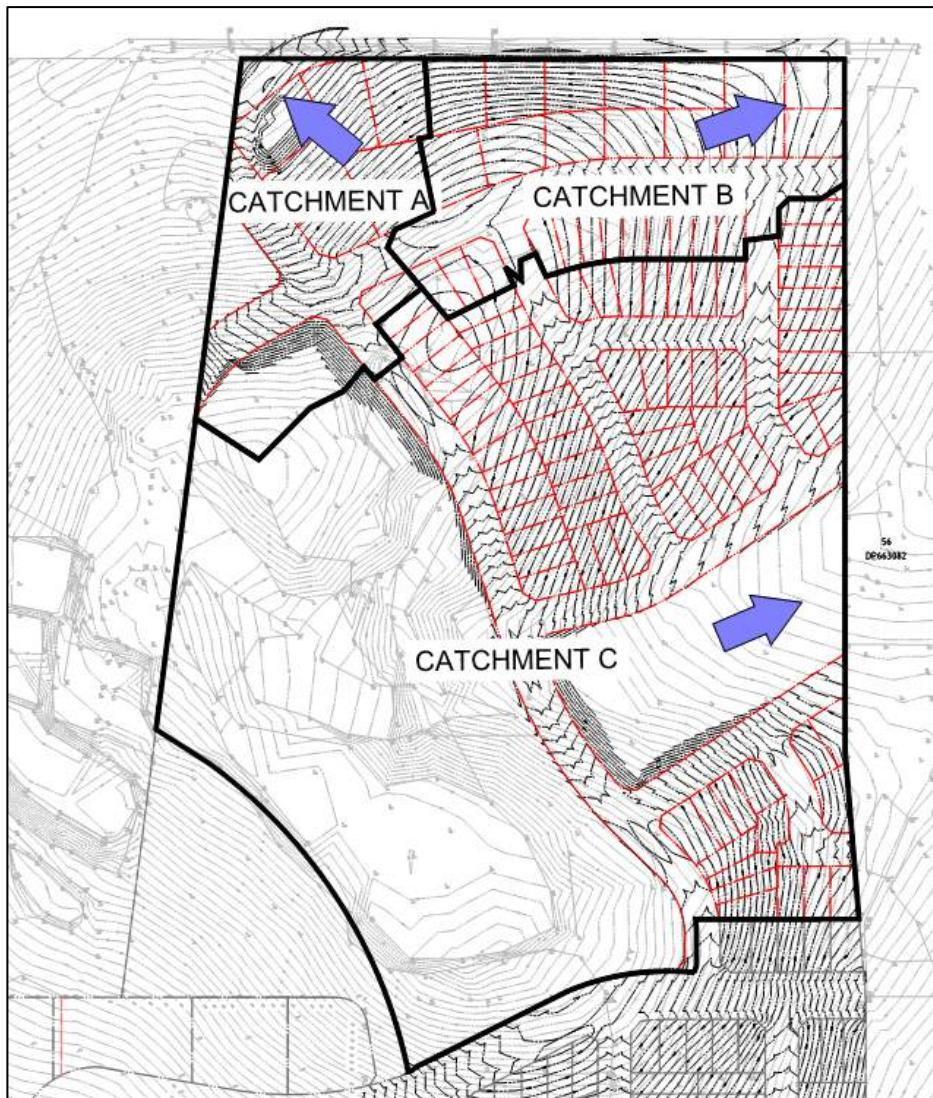

Figure 5 – Post-development Catchment Plan
The proposed site grading for the Warnervale Town Centre – Stage 8 – 10 development has been designed so that post-development discharge locations resemble closely to that of the existing conditions. The proposed development has been divided into three (3) sub-catchments as shown in Figure 5 and detailed in Table 3.